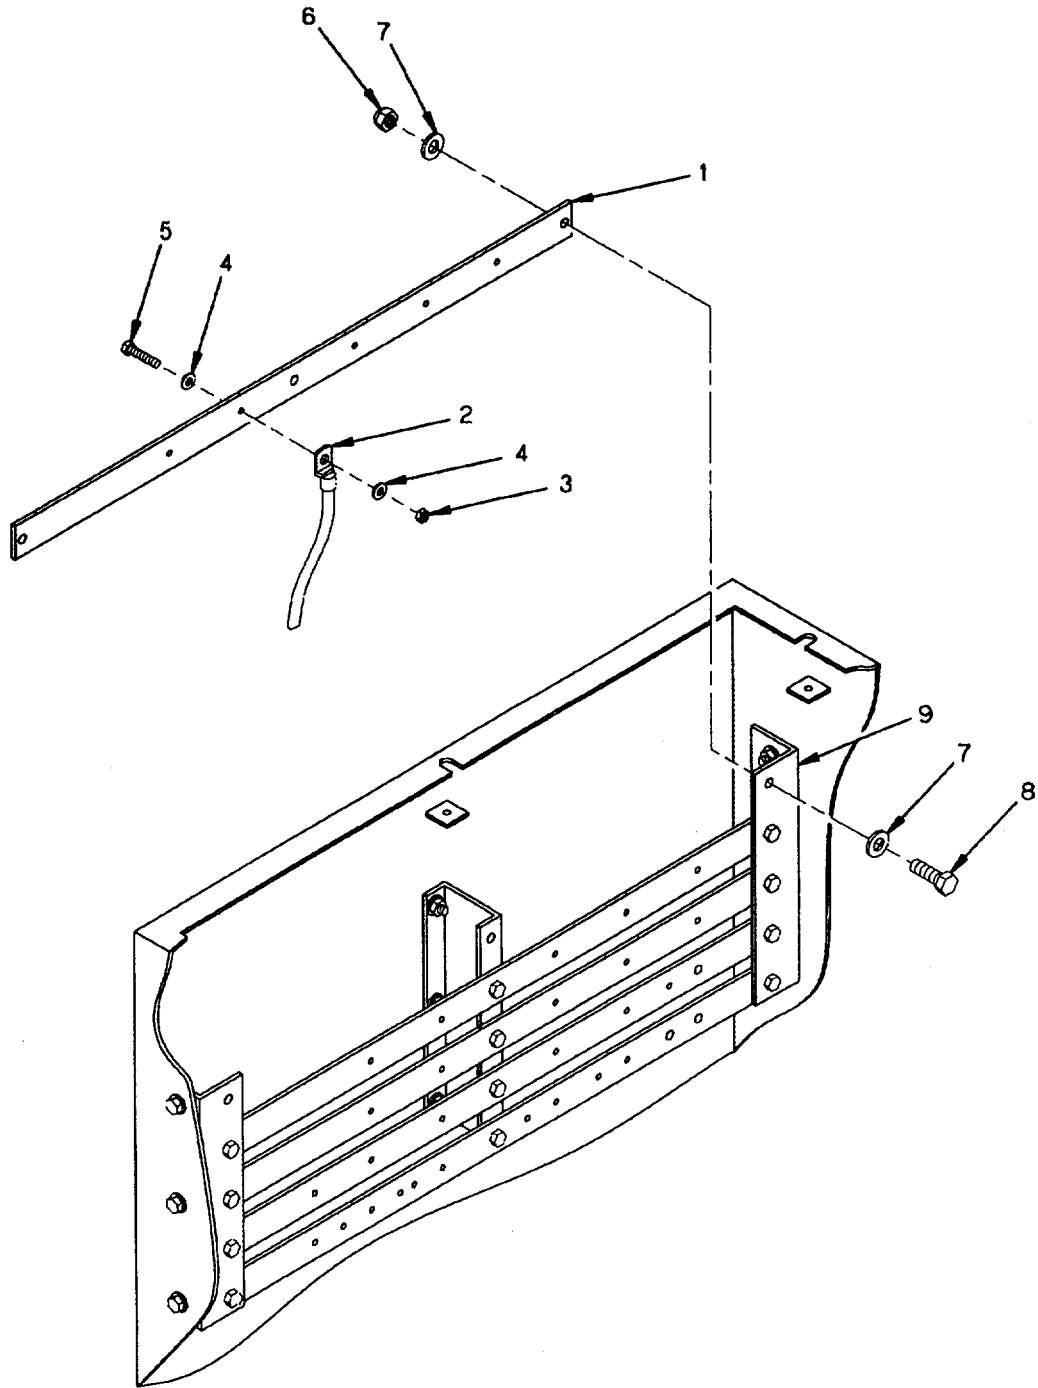

Figure 5-4. Bus Bar Maintenance.
1. Locate defective bus bar (1, figure 5-4).
2. Tag electrical leads (2) connected to defective bus bar (1).
3. Remove self-locking nuts (3) flat washers (4), and screws (5) securing electrical leads (2) to bus bar (1).
4. Remove three self-locking nuts (6), six flat washers (7), and three screws (8) securing the bus bar (1) to the mount (9).
1. Position bus bar (1, figure 5-4) in place.
2. Install three screws (8), three flat washers (7), and three new self-locking nuts (6).
3. Install leads (2), screws (5), flat washers (4), and new self-locking nuts (3) and remove tags.